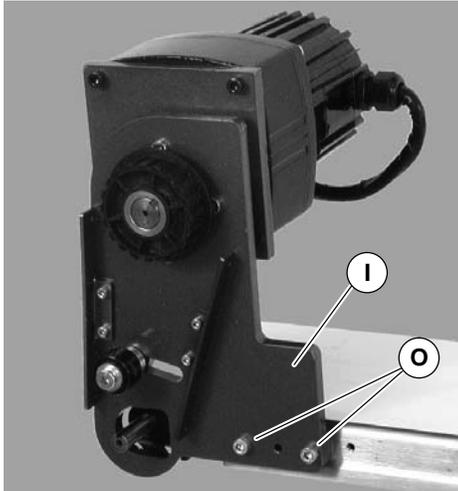
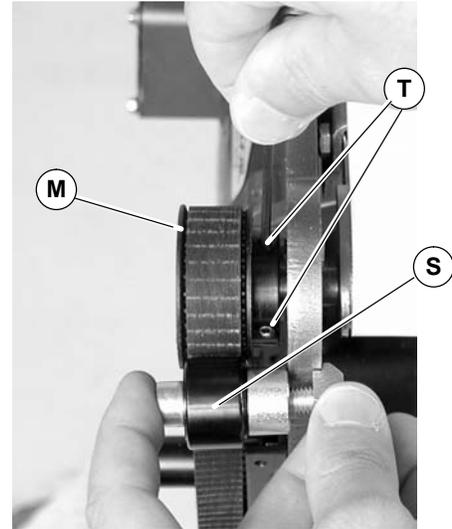

Figure 9
Figure 11
- Attach mount assembly (I of Figure 9) with screws (O). Tighten screws to 80 in-lb (9 N-m).
- Wrap timing belt (P) around driven pulley (M) and drive pulley (J). Install driven pulley onto conveyor shaft (Q).
- Remove cam bearing and spacer (S of Figure 9). Place the cam bearing and spacer (S of Figure 11) next to the driven pulley (M). Ensure the flanges of the driven pulley are aligned with the cam bearing. Tighten driven pulley set screws (T). This will allow for proper belt alignment while conveyor is in use. Install cam bearing and spacer (S).